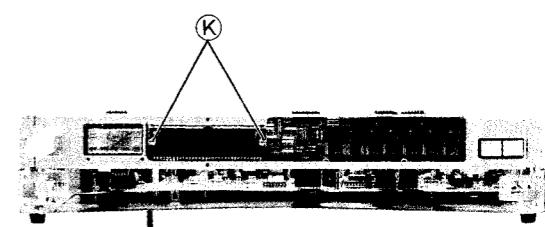

Figure 11
5. Remove two hex nuts **(K)** holding the display P.C. Board on the front chassis, then display P.C. Board can be removed out. (See Figure 11).